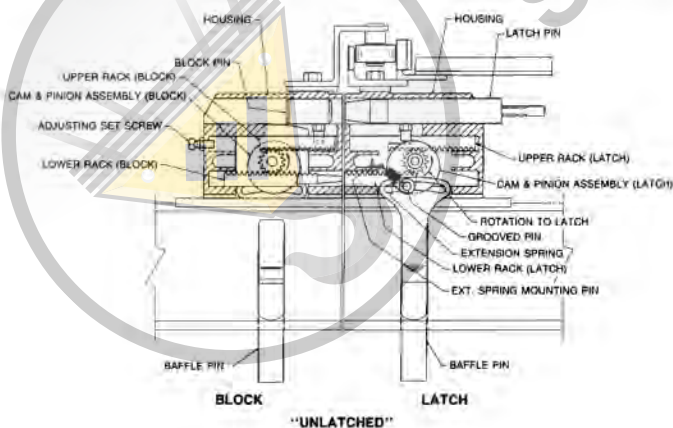

FIGURE 54
9. Refer to Figures 54, 55, 56, and 57 that show the relationship of internal parts.
1. With the latch operating assembly in “unlatch” position, assemble the latch pin and block pin, and upper and lower racks as shown in Figures 54 and 55. In the latch assembly, the latch pin and lower rack should be flush with the front surface of the housing, and the block pin and upper rack should be moved forward to the extreme position. When the pins and racks are properly positioned, insert the cam and pinion assembly to mesh with the upper and lower racks while the grooved pin in the cam is in the low position. Note that the grooved pin should be slightly past center towards the mounting pin of the extension spring, as shown in Figures 54 and 55.